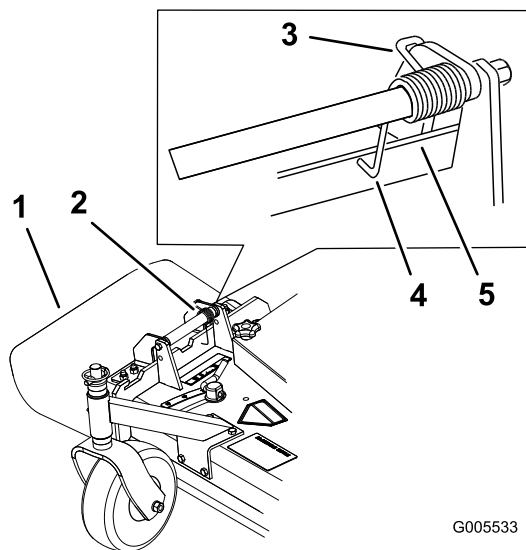

Figure 5
- Make sure the **L** end of spring is installed behind the deck edge before installing the bolt as shown in Figure 5.
- Place the **J** hook end of spring around grass deflector (Figure 5).